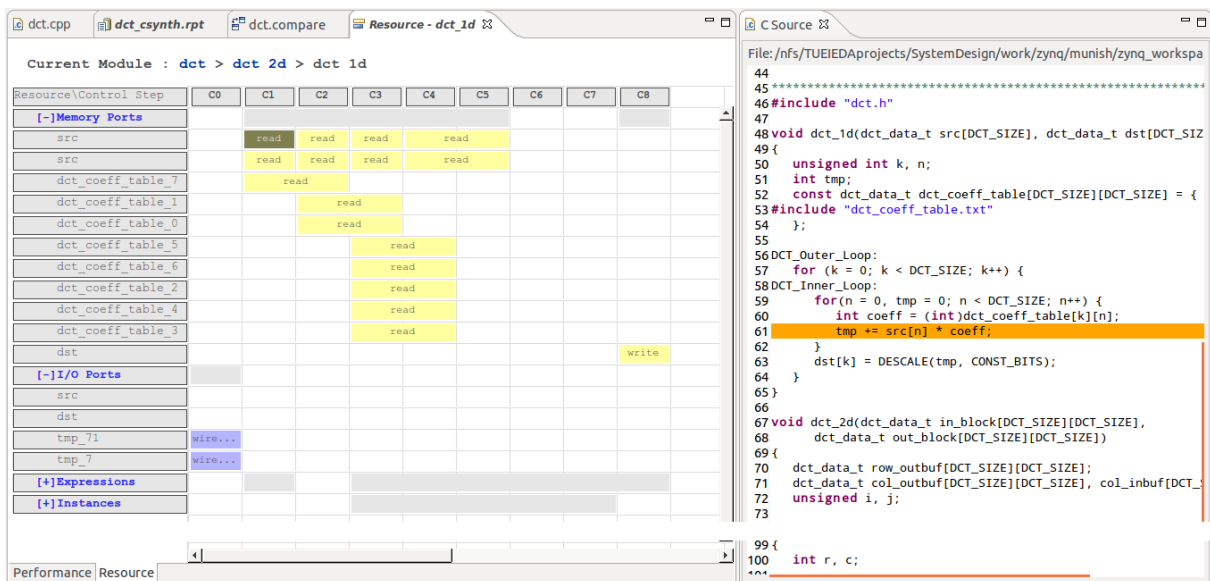

Figure 3.12.: Performance bottleneck because of IO operations.
- Since the same BRAM is used to read the data serially, the read operations from BRAM are delaying the execution of operations (Figure 3.12).